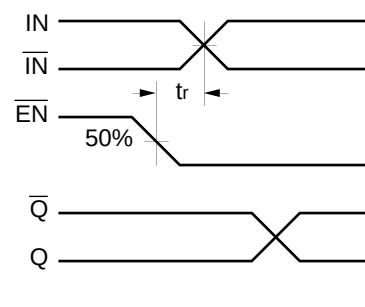

Figure 3. Release Time
7. The release time is the minimum time that $\overline{EN}$ must be de-asserted prior to the next IN/ $\overline{IN}$ transition to ensure an output response that meets the specified IN to Q propagation delay and output transition times (see Figure 3).